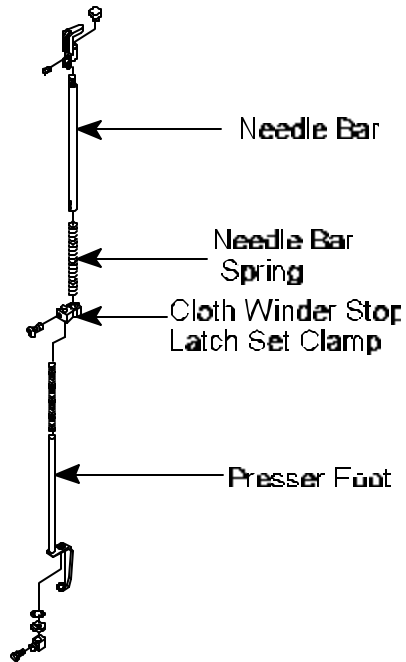

Figure 7
17. **Insert** new needle bar through Cloth Winder Stop Latch Set Clamp. See *Figure 7*.